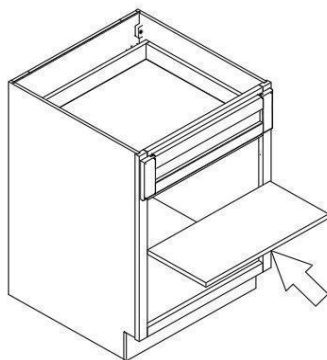

Figure6
6. **Insert the drawer box into the Cabinet, then Install the shelf clip and put the shelf into the cabinet(Figure6).**